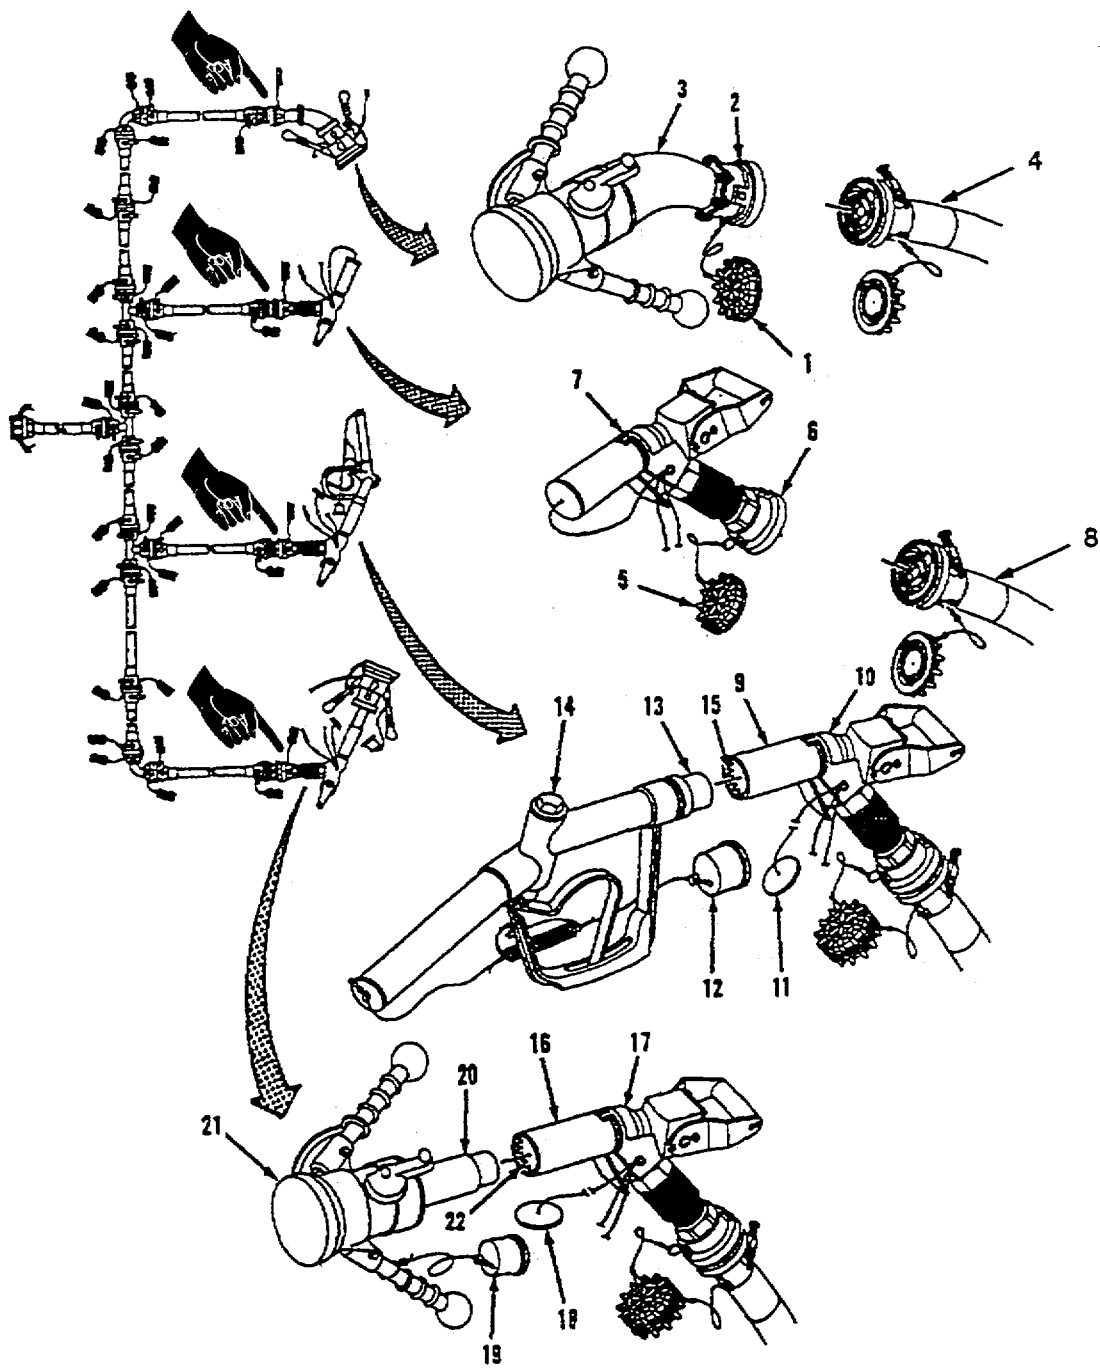

Figure 2-20. Fuel Nozzle Removal.
- d. Fuel Nozzle Removal. Refer to figure 2-20. The system layout being disassembled may have been modified to meet mission requirements. All of the same type fuel nozzle or a combination of different type nozzles might be installed. The following paragraphs provide instructions for disconnecting one of each type nozzle.
- (1) Pull back collar (16) on CCR nozzle (17) and disconnect recirculation nozzle (21) from discharge adapter (22).
- (2) Install cover (19) over coupling (20) on recirculation nozzle (21).
- (3) Push cover (18) into discharge adapter (22) on CCR nozzle (17). Collar (16) will move forward and secure cover in place. Open Port Nozzle Removal
- (4) Pull back collar (9) on CCR nozzle (10) and disconnect open port nozzle (14) from discharge adapter (15).
- (5) Install cover (12) over coupling (13) on open port nozzle (14).